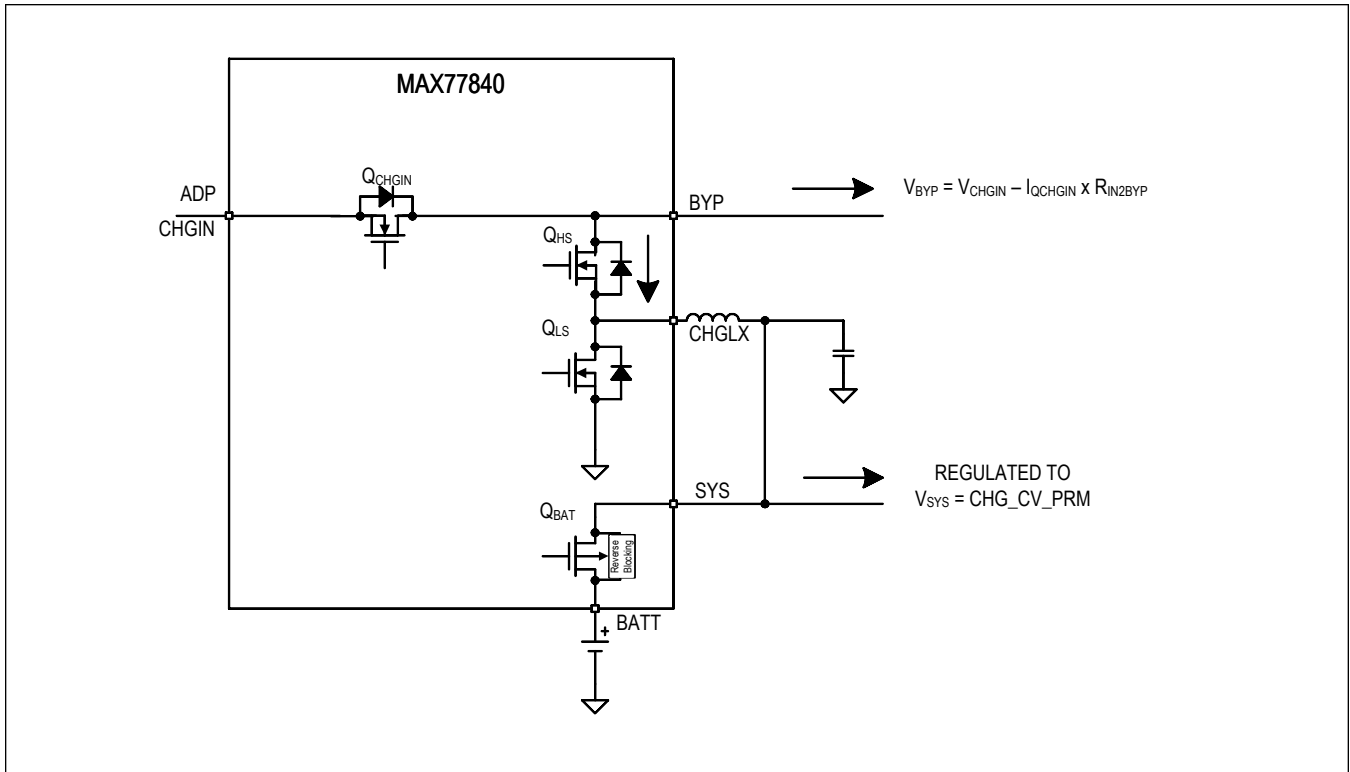

Figure 7. No Charge-Buck
5. NO CHARGE-BUCK, MODE = 0x0C: The adapter is detected within the input voltage operating range (QCHGIN = on). Battery is disconnected (QBAT = off) and the charger is operating in buck mode powering SYS node, see Figure 7.